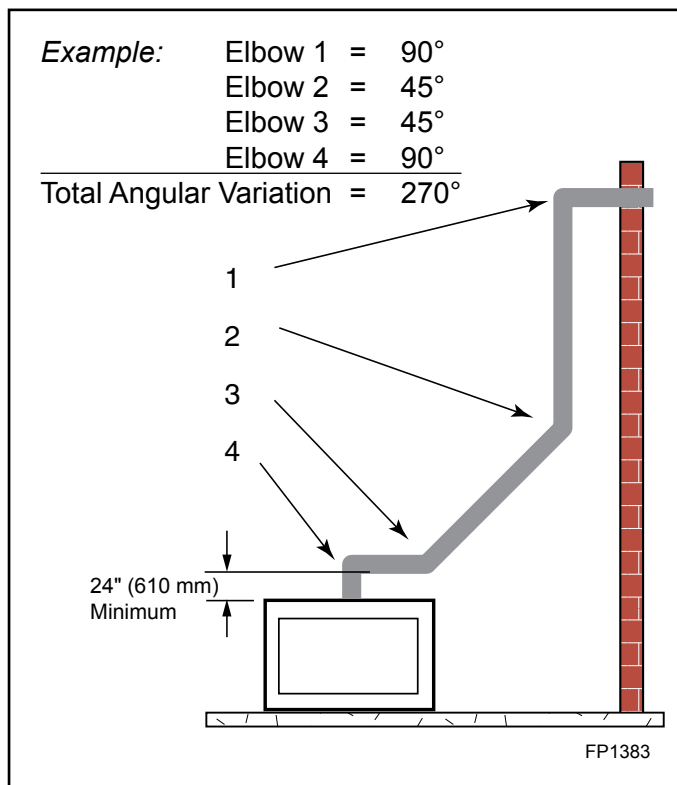

Figure 5.8 Maximum Elbow Usage
- The maximum number of elbow degrees in a system is 270°. See Figure 5.8.